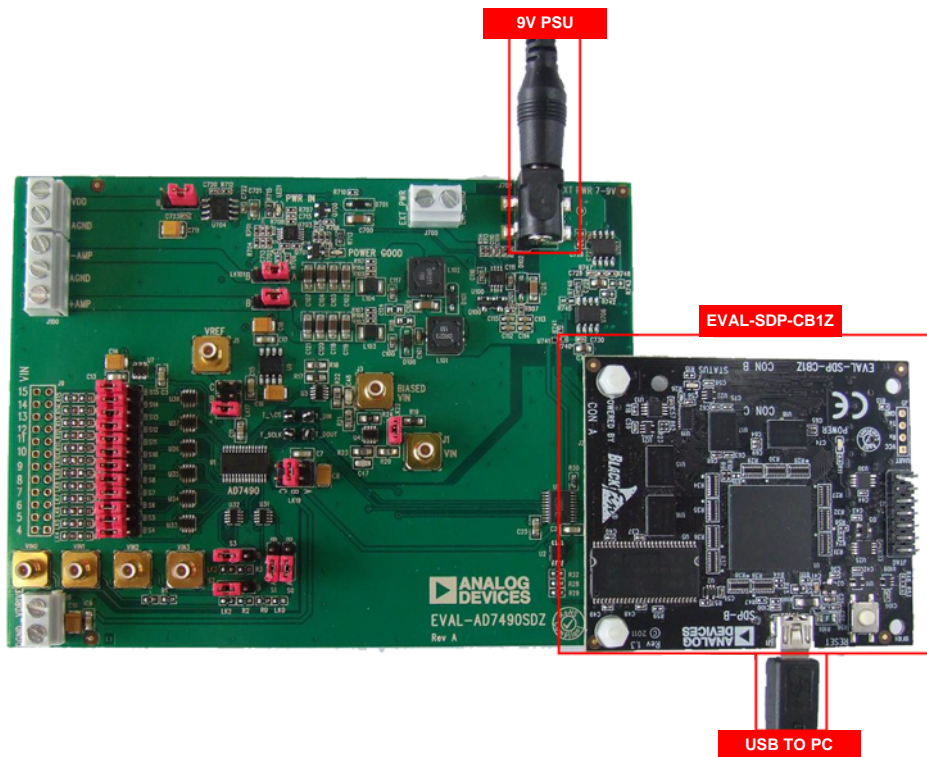

Figure 2. Hardware Configuration—Setting Up the EVAL-AD7490SDZ (EVAL-AD7490SDZ on Left and EVAL-SDP-CB1Z on Right)
2. Connect the EVAL-SDP-CB1Z board to the EVAL-AD7490SDZ board as shown in Figure 2. Screw the two boards together using the nylon screw-nut set included in the evaluation board kit to ensure that the boards are connected firmly together.
The AD7490 evaluation board connects to the EVAL-SDP-CB1Z system demonstration board. The EVAL-SDP-CB1Z board is the controller board, which is the communication link between the PC and the main evaluation board. Figure 2 shows a photograph of the connections made between the AD7490 daughter board and the EVAL-SDP-CB1Z board.
1. Connect the EVAL-AD7490SDZ board to Connector A or Connector B of the EVAL-SDP-CB1Z board (see Figure 2).